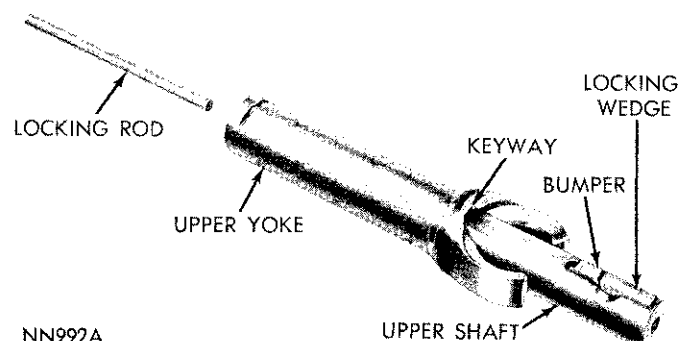

Fig. 9—Upper Steering Shaft and Yoke—Disassembled
Disassemble upper steering shaft, locking wedge, locking rod and up bump stop from upper yoke (Fig. 9).
(4) Install centering spheres and anti-lash spring in upper steering yoke. Install lower steering shaft from same side of spheres that spring ends protrude (Fig. 8). Install upper steering shaft, locking wedge, locking rod and up bump stop in yoke (Fig. 9).
(5) Install steering shaft assembly in shift tube from upper end. Carefully guide shaft through shift tube and bearing.
(6) Install ignition switch actuator rod through bowl from bottom and insert in slot in support. Extend rack downward from bearing housing. Assemble bearing housing over steering shaft and engage rack over end of actuator rod.
(7) Install external tilt release lever and, holding lock shoes in disengaged position, assemble bearing housing over steering shaft until the pivot pin holes line up.
(8) Install pivot pins.